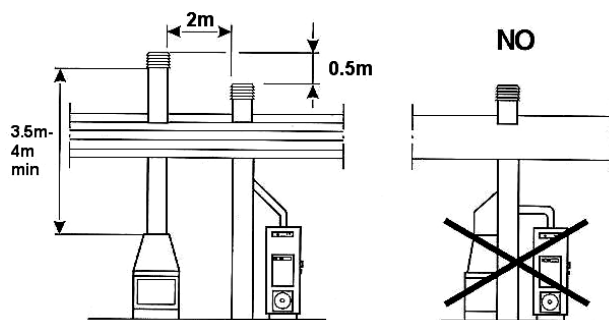

Fig. 3: Correct position for the flue and chimney cap
- Build the chimney taller than the tallest part of the roof. The right flue dimensions are described in Fig. 3
- On the roof, if there is more than one flue on the same roof then the minimum distance must be kept between them, greater than 2m at X-axis and 0.5m at Y-axis (Fig. 3).